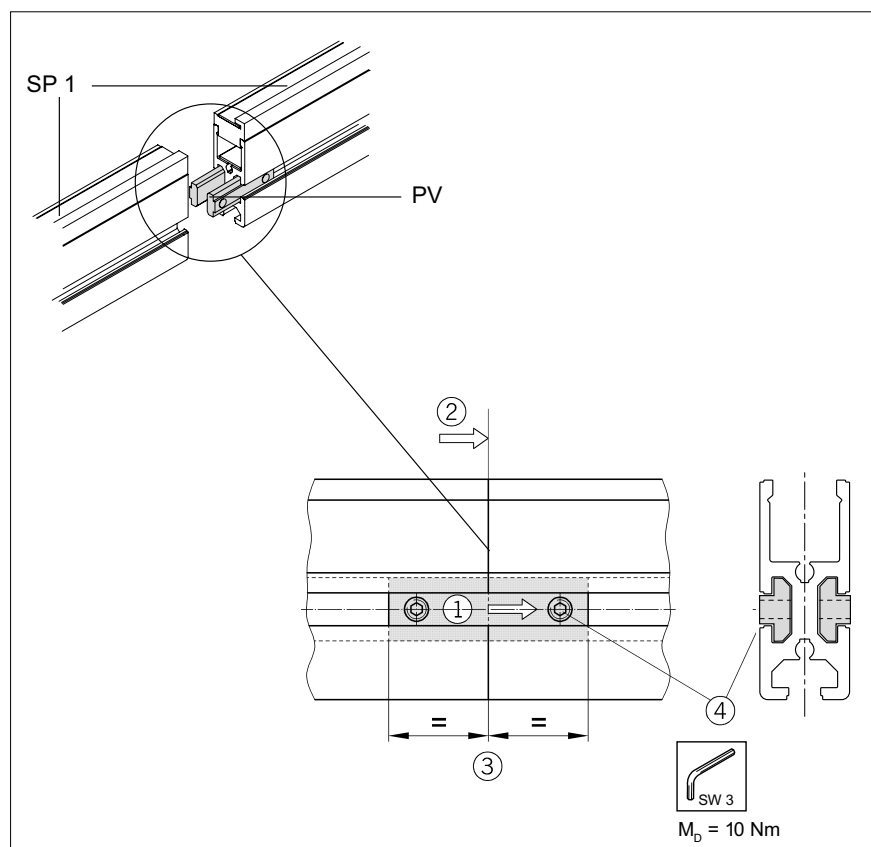

Fig. 9: Assembly of section joint
- Install two profile connectors PV (3 842 518 427) according to Fig. 9, in the order (1) to (4).